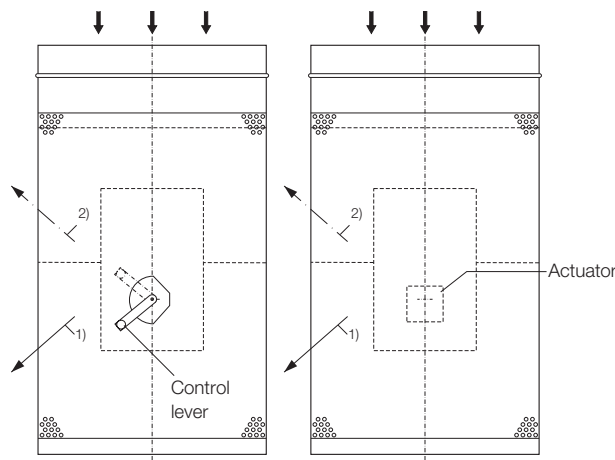

Fig. 9: Alteration of discharge direction
c) with a **control lever** positioned on the perforated cylinder. The control lever setting indicates the air discharge direction (Fig. 9).